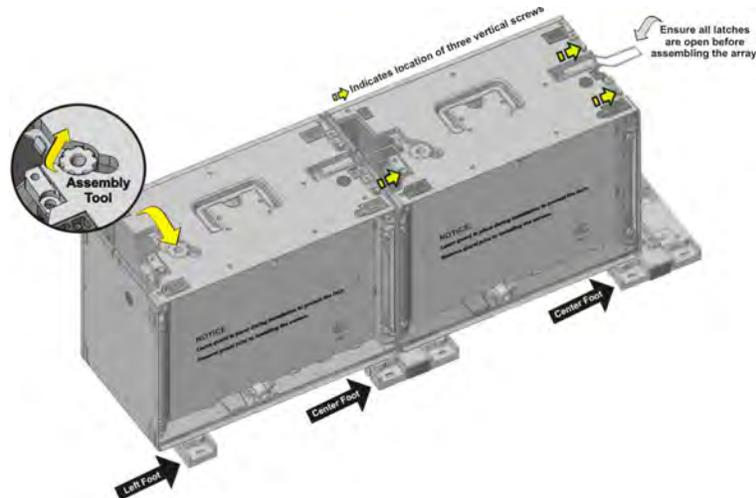

Figure 2-6 Assemble Second Tile in First Row
- Assemble the next tile in the array to a center leveling foot only (**Figure 2-6**). Using the assembly tool, hand-tighten the two vertical screws to mount the tile to the center foot. **DO NOT** completely tighten the screws to allow for adjustments. Line the tile with the center foot to the previous tile with left and center feet (**Figure 2-6**). Using the assembly tool, hand tighten the vertical screw on the second tile to secure it onto the center foot of the previous tile.